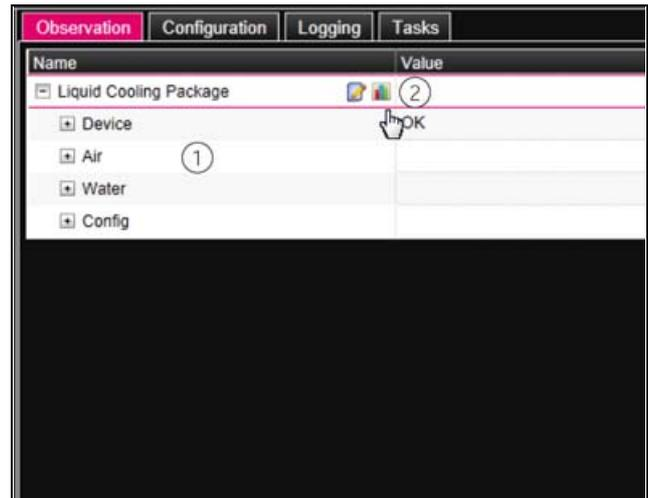

Fig. 76: Tree structure
If, after selecting the "Liquid Cooling Package" level, the subordinate entries "Device", "Air", "Water" etc. are displayed (fig. 76), you can switch to the graphical representation as follows:
- Press the coloured "Graphics" symbol after the "Liquid Cooling Package" entry in the form of a stylised diagram (fig. 76, item 2).
The display switches to the tree view (fig. 76) and the individual settings for the Liquid Cooling Package may be selected.